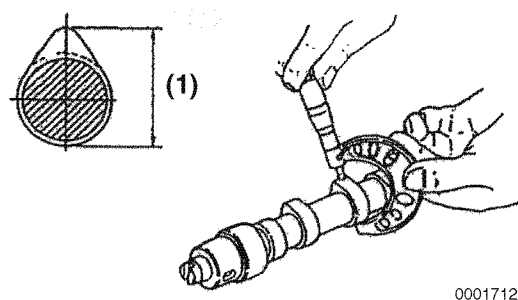

Figure 6-77
3. Measure the height of each lobe (Figure 6-77, (1)). Record the measurements. See *Camshaft on page 6-7 for specifications.*